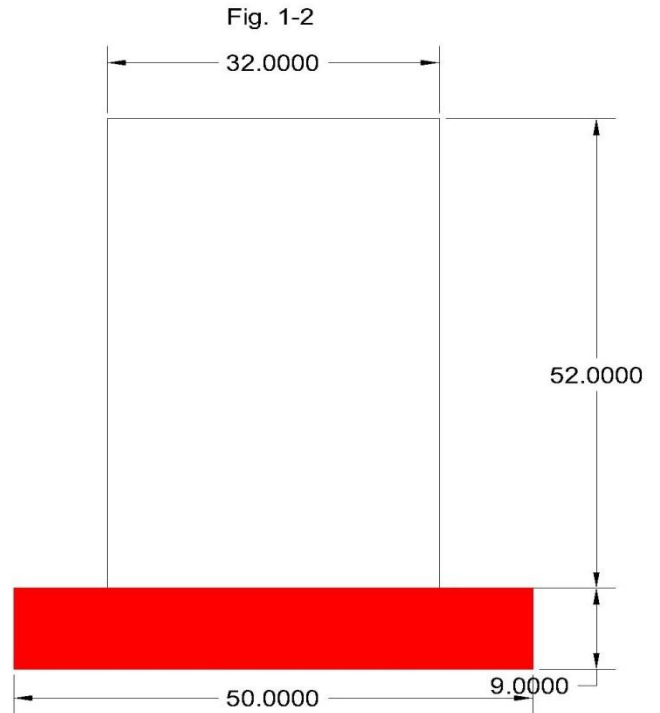

Fig. 1-3
- Using a single piece of self-adhesive flashing tape, make a sill pan with end dams (sides) that run up the rough framing jamb at least 6" and fold over on to the face of the rough opening and extend outward from the rough opening at least 2". (Fig. 1-3 and 1-4)